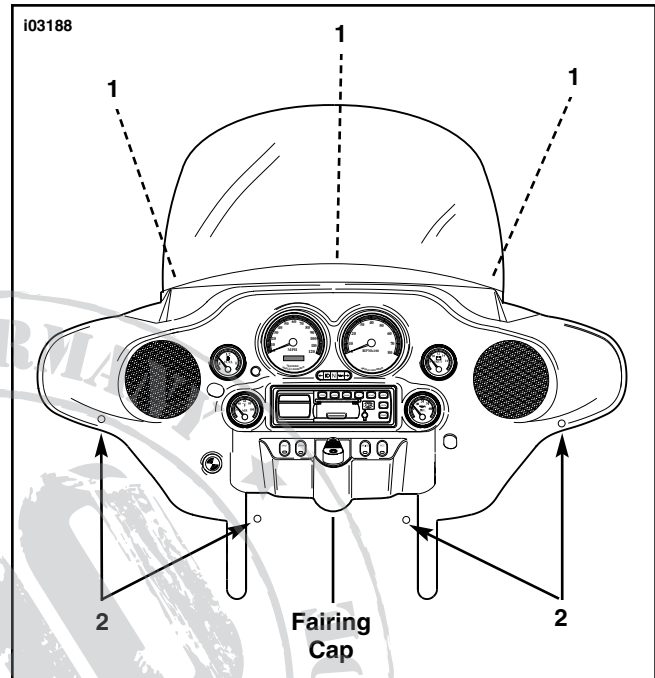

Figure 1. Windshield and Fairing Hardware
2. See Figure 1. Standing in front of the vehicle, remove the three T27 Torx screws (1) with washers securing the windshield along the front of the fairing.
4. The six straps (three on each side near the bottom) will be captured between the inner and outer fairing. Refer to Figure 1. Remove the four screws (2) from the inner fairing. **NOTE:** The bottom two screws are below the fairing cap. Save screws for installation. Separate the inner and outer fairings just enough to install the straps into the fairing. Adjust the straps, then reinstall the screws and tighten securely.